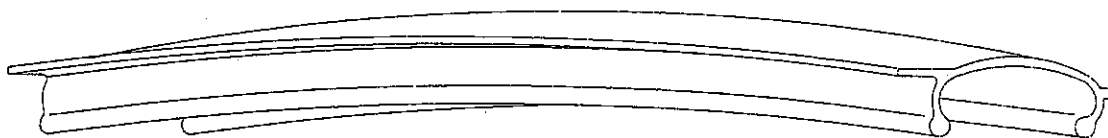

FIG. 11
2. INSTALL THE SHORT TOP CAP PIECES AROUND BOW SEATING IT IN THE DEEP GROOVE AND SNAPPING IN PLACE WITH A RUBBER Mallet. WITH 6 INCH PREBENT IT IS OFTEN POSSIBLE TO SNAP CAP ONTO BASE BY SIMPLY PULLING DOWN WITH YOUR HAND. (SEE FIG. 11 FOR